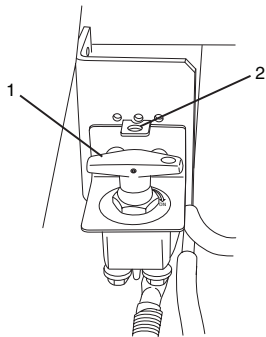

Figure 3
1. Turn the battery disconnect switch (Figure 3, Item 1) counterclockwise so the hole on the switch aligns with the hole in the bracket (Figure 3, Item 2).